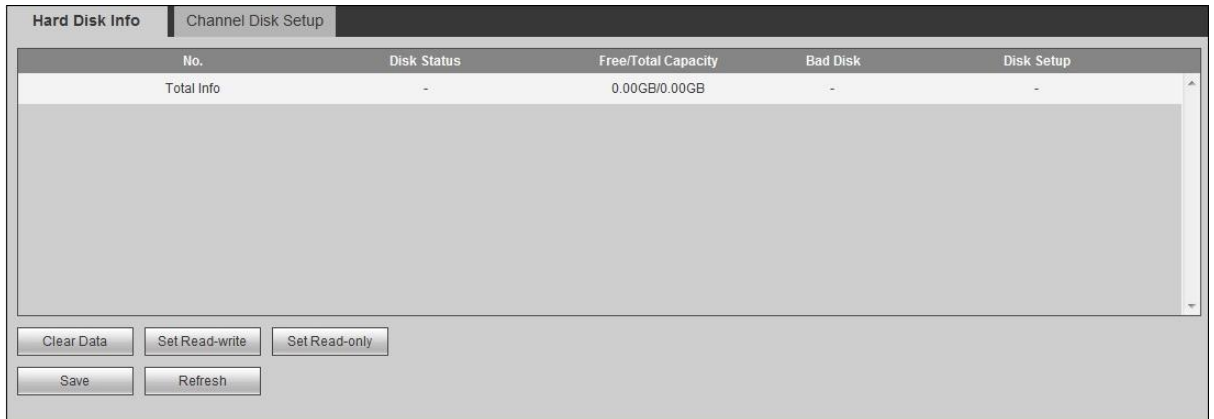

Figure 4-59
Step 1 Select “Setup>Storage > Hard Disk Info> Hard Disk Info”. The system displays “Hard Disk Info” interface, as shown in Figure 4-59.